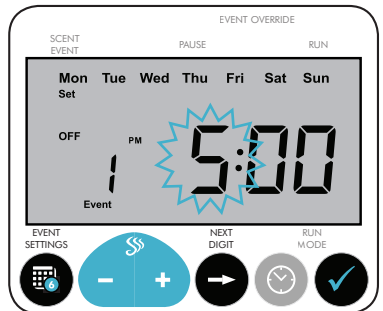

Fig.10: The Off Time hour slot will be flashing. Set and Event 1 will also be displayed.
- Press - or + to adjust the hour. **(Fig.10)**
- Press - or + to adjust the minutes in increments of five (5).